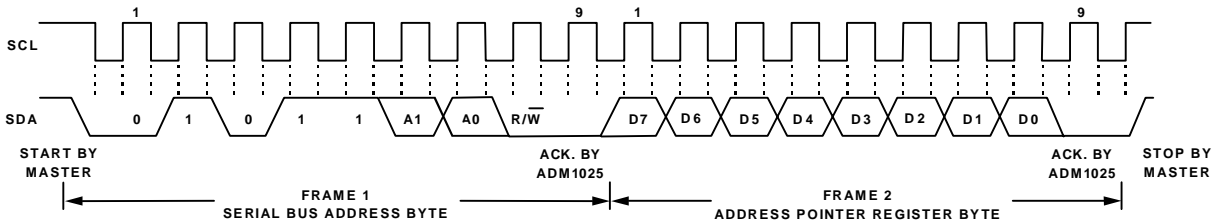

Figure 2b. Writing to the Address Pointer Register only
be written to the register. This is shown in figure 2b.
- If the Address Pointer Register is known to be already at the desired address, data can be read from the corresponding data register without first writing to the Address Pointer Register, so figure 2b can be omitted.